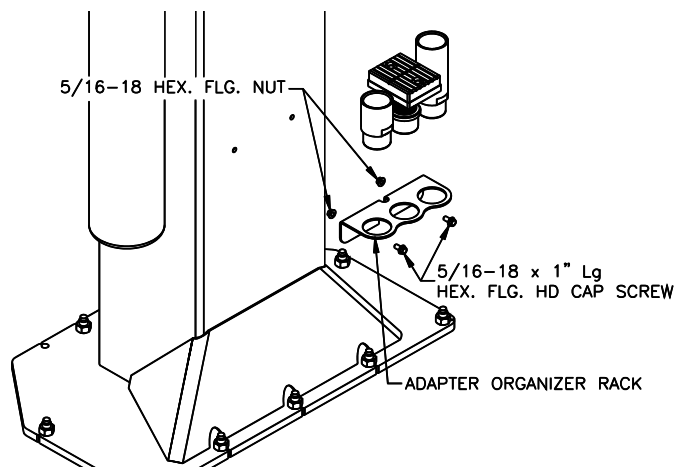

Fig. 16-Adapter Rack Installation
- 31) Locate the two pre-drilled holes on the back of each column 19" up from the top of the base plate and tap 5/16"-18. Center the adapter rack and attach with 5/16"-18 x 1" Lg hex flange cap screw and 5/16"-18 hex flange nut (**Fig. 16**).